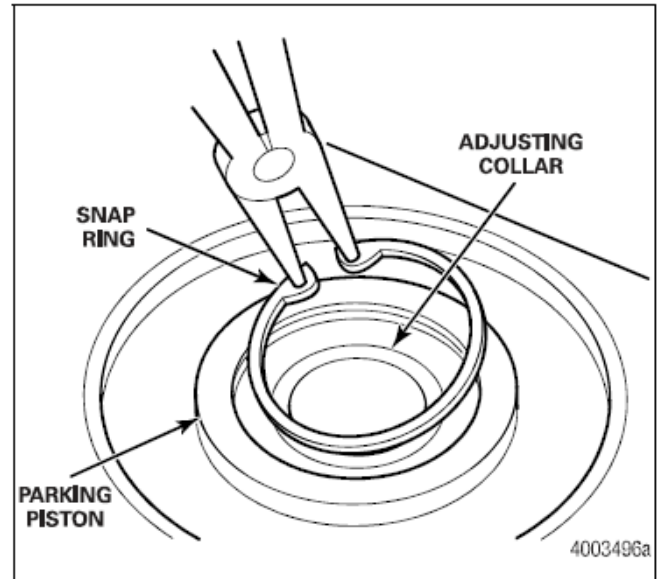

Figure 5.8
20. Install a snap ring into the snap ring groove of each parking piston inner bore to retain the adjusting collars. Figure 5.8.